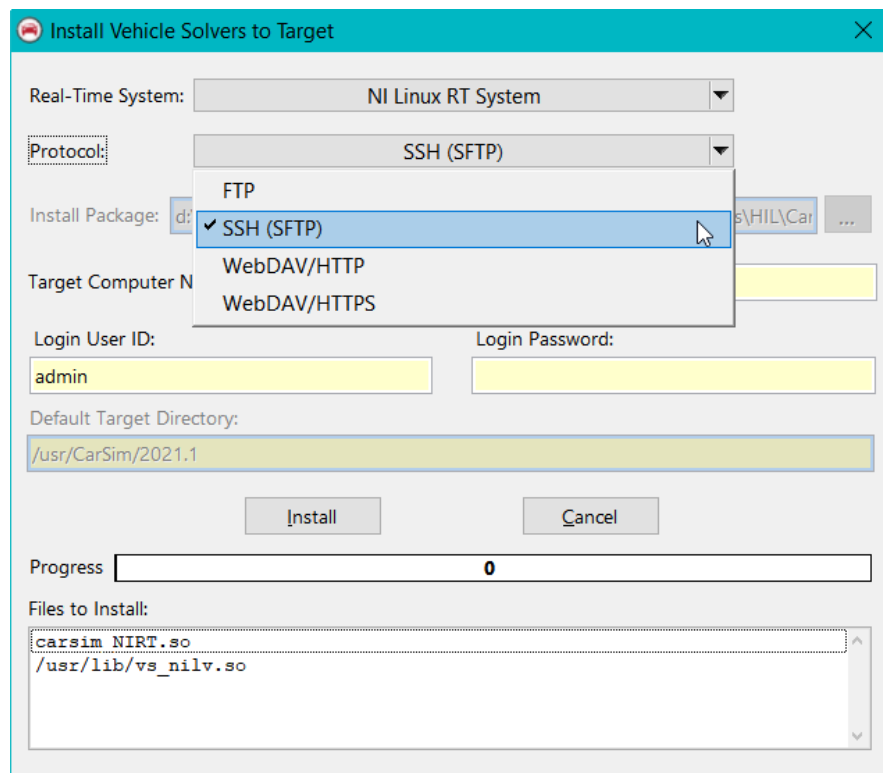

Figure 6. Install Vehicle Solvers to NI Linux RT system target.
2. Select **NI Linux RT System** from the **Real-Time System** pull down menu. The solver installation package location is automatically detected (Figure 6).
3. Select protocol **SSH (SFTP)** (Figure 6). You cannot use **WebDAV** for installing VS math models.
4. Enter your target machine address into **Target Computer Name or IP Address** yellow field (Figure 6).
5. Click the button “Install” to initiate the installation process (Figure 6).